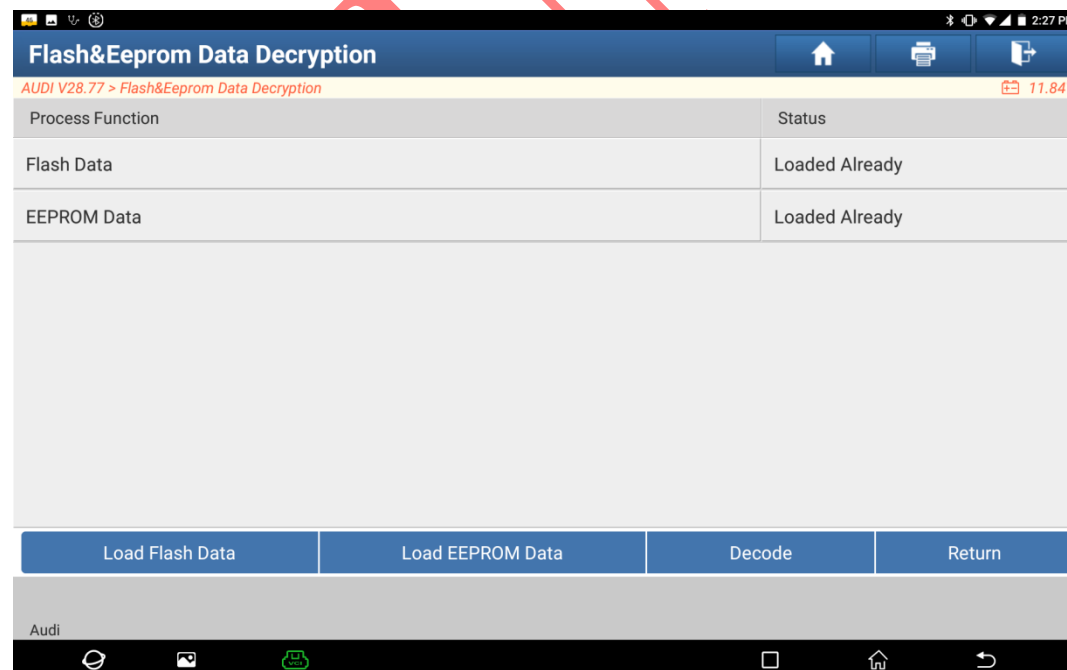

Figure 7
6. After the EEPROM and FLASH data of engine and ECU are all read, use the **【FLASH&Eeprom Data Decryption】** function to decrypt the Anti-theft data of engine ECU, and respectively load the FLASH data and EEPROM data that are read just now, as shown in Figure 7, and then click the Decode button;